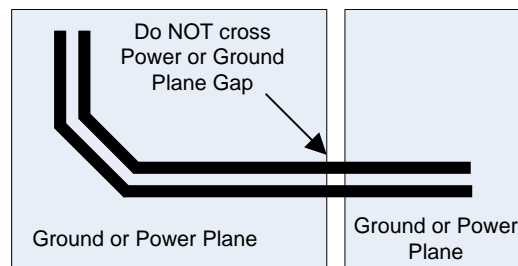

Figure 20. Differential Signal Pair-Plane Crossing
- Differential signal traces should not be run such that they cross a plane split, as shown in Figure 20. A signal crossing a plane split may cause unpredictable return current paths, resulting in an impedance mismatch, which can impact signal quality and potentially create EMI problems.